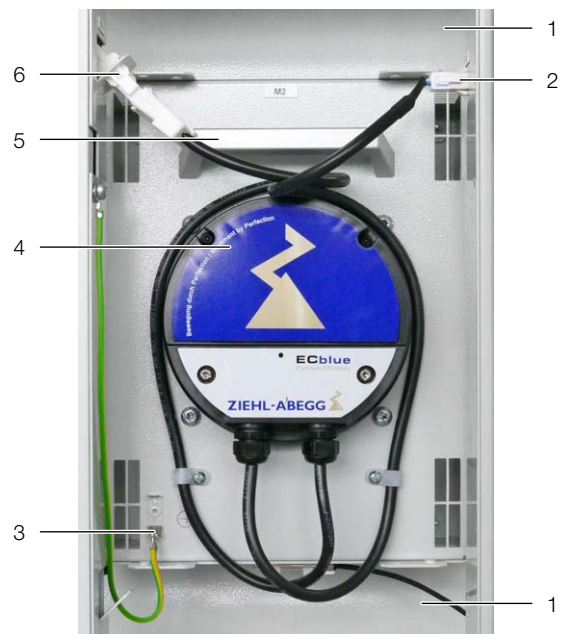

Fig. 39: Fan module in fan tray
- Release the two DC and AC fan connectors on the left and right (fig. 39, items 2 and 6).
- Disconnect the PE conductor connection on the fan (fig. 39, item 3).